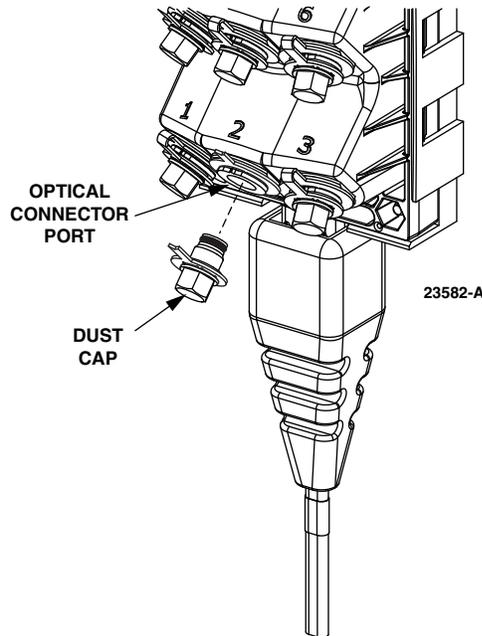

Figure 14. Typical Optical Port Adapter Components
The basic components of a typical MST optical port hardened adapter are shown in Figure 14. The dust cap threads into the adapter housing. An O-ring on the dust cap provides a water tight seal when the dust cap is in place. The 216B key tool is required to remove the dust cap.
3. Before removing the optical port dust cap, clean any debris from around the MST optical ports, preferably using compressed air, to minimize contaminants from being introduced into the optical port. Use the 216B key tool (accessory) to unscrew the dust cap (see Figure 14) from the MST optical port.
5. Thread the optical port dust cap into the optical port and tighten until finger tight (see Figure 14).